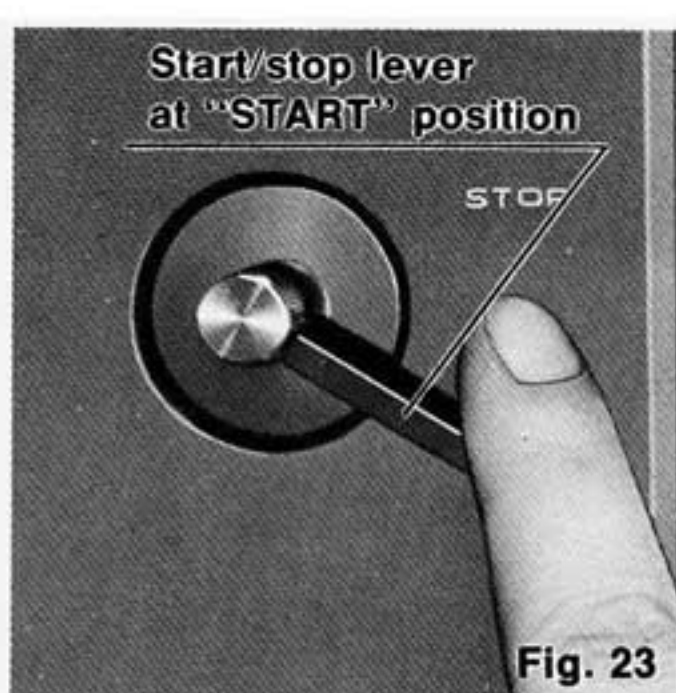

Fig. 23
- ③ Release the arm clamp and pull the start/stop lever to the start position. The tonearm will then move automatically over the lead-in groove and descend slowly to the record. (See Fig. 23)
- ④ When play has finished, the tonearm returns to its rest automatically and the unit will shut off automatically, too.